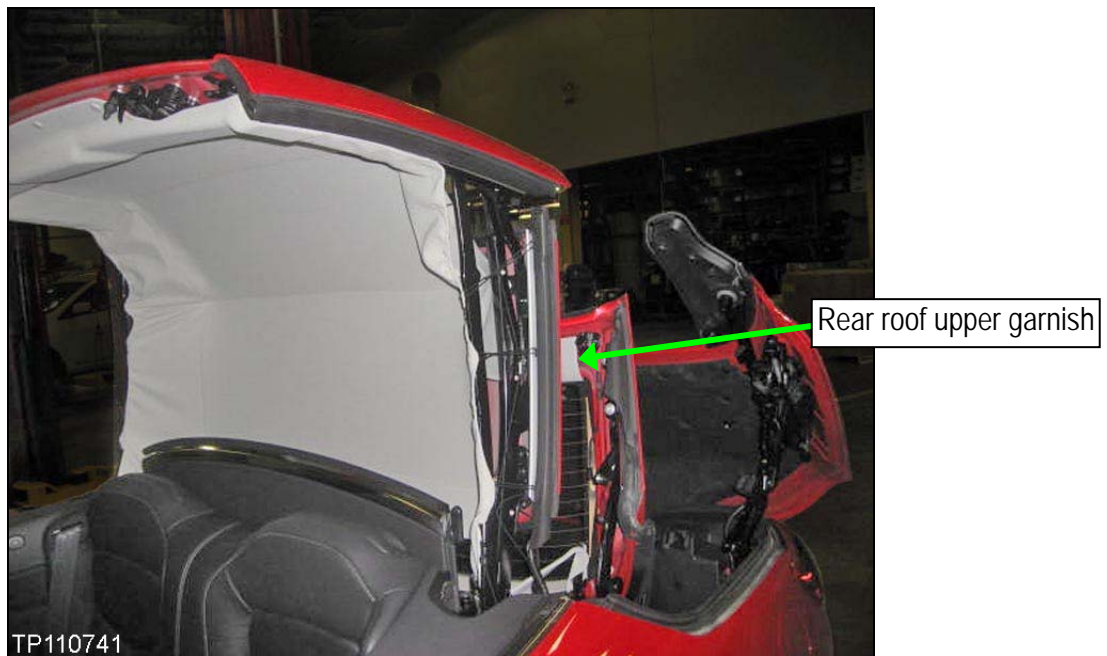

Figure 4
5. Next, position the retractable hard top (or hard top) as shown in Figure 4.